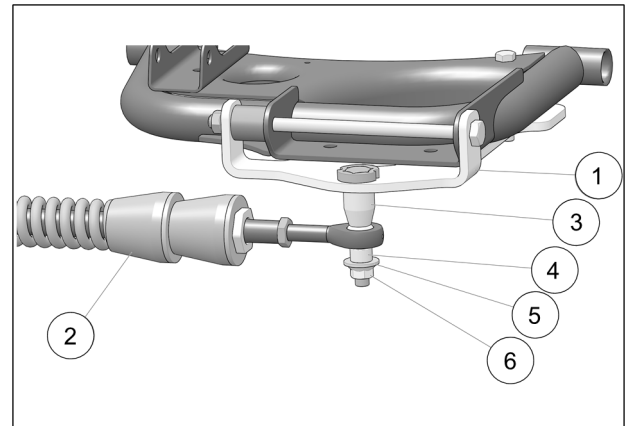

Fig. 11
10. Attach stabilizing rod (2) to anchor bracket (1), using the long spacer bushing (3), the short spacer bushing (4), flat washer (5) and nut (6). Torque to 70 N•m [52 lb•ft]. See Fig. 11